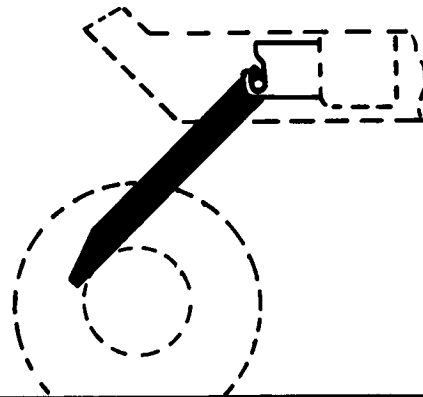

Fig. 7
6. Check for any objects lodged between the front dual tires. To remove any objects that cannot be removed by hand, use the rock ejector bars as shown in Fig. 7.